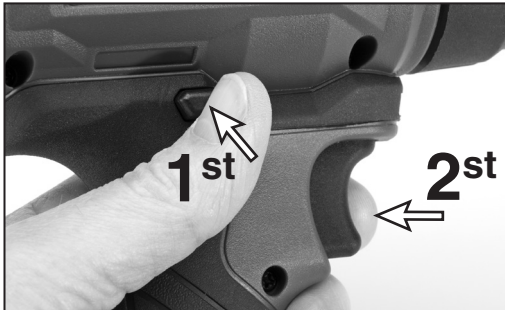

FIG. 1
6.1 SAFETY SWITCH + TRIGGER – FIG.1